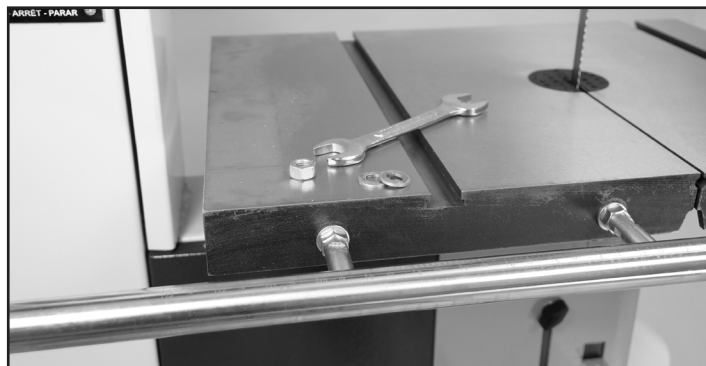

FIGURE 5
1. Mount the fence Guide Rail (#12E) onto the front table edge with the two fence bar Nuts and Washers (#14E, 5E) Fig. 5. Position the bar so that it is parallel with the table surface, and equal distance out from the front edge of the table when measured at both left and right front edges of the table.